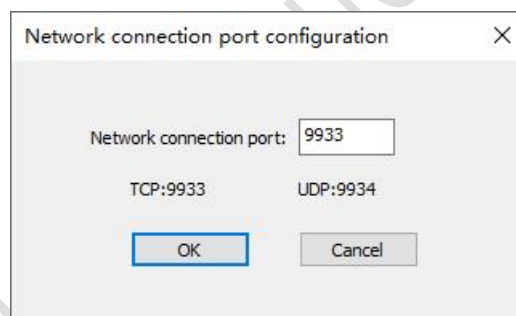

Fig.3-7 Network connection port configuration
- ① It is recommended that you select **Remote** when the sender is placed far from the LED screen, and the control PC cannot physically connect to the sender via a cable.
- ② For calibration with 2 PCs, the PCs should share the same LAN (connected via WIFI or network cable), and the firewalls of them should be turned off. The 2 PCs should install *Calibration Pro* of the same version.
- ③ The PC for display capture will automatically launch *CaliPro Server* and should be connected to the control PC.
- ④ The **Control PC port** is 9933 by default. If the default port has been occupied by other devices, you will need to set a port number for both the control PC and the PC for display capture. To modify the port number, right-click the software interface or minimize the interface in the control PC, and then access the network setup window to enter a new port number. See Figure 3-7.